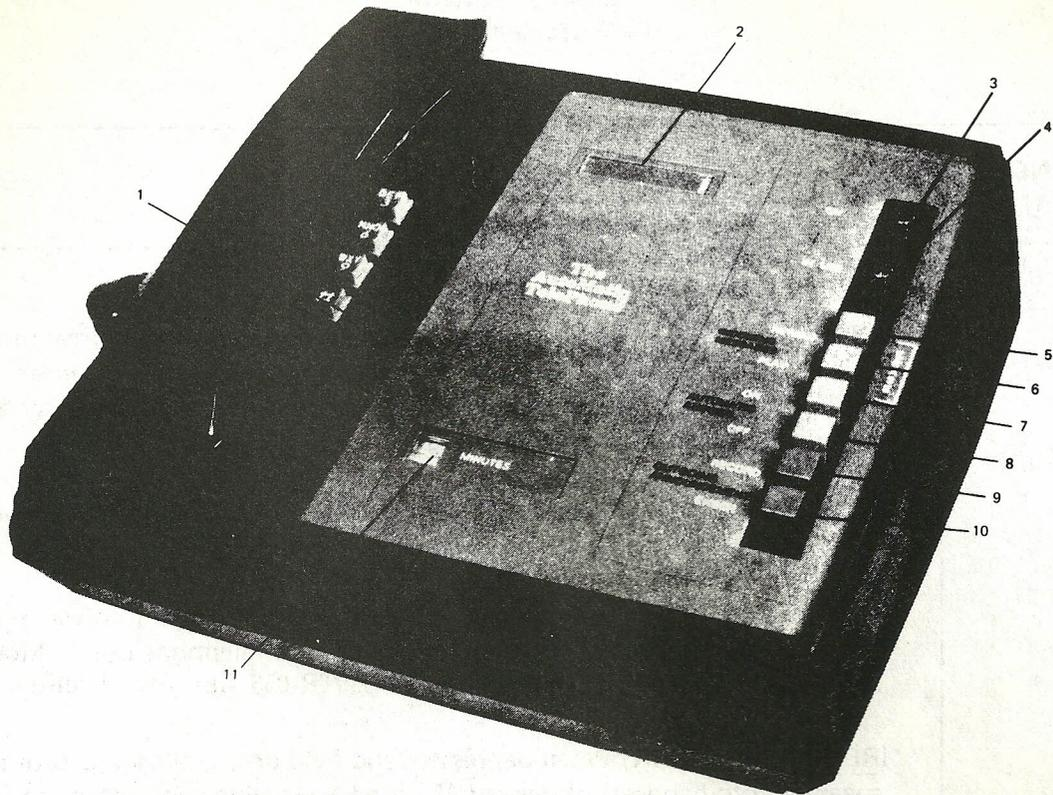

Fig. 1—Operating Controls
**2.04** The operating controls and features shown in Fig. 1 and 2 are described in Table B.
(See Figs. 1 and 2)
ITEM NO. (FIG. 1)	DESCRIPTION